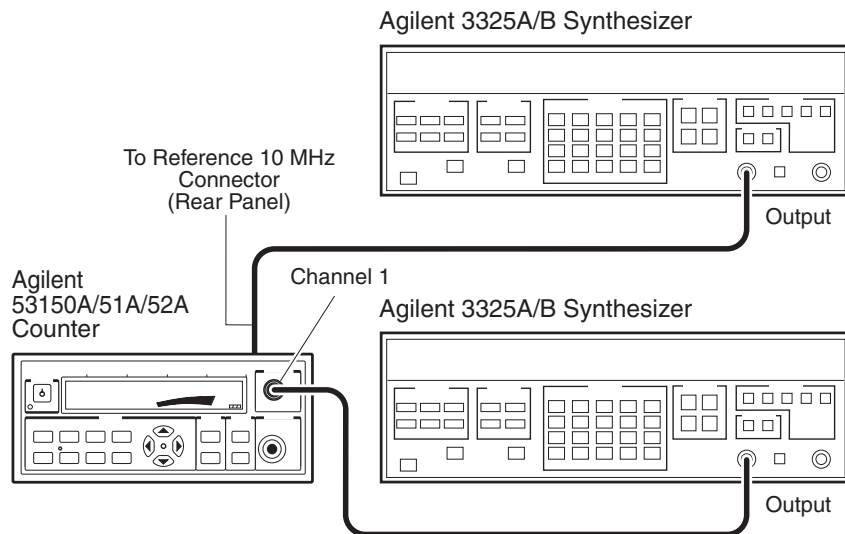

Figure 1-2. External Timebase Test Setup
- 1 Connect an Agilent 10503 series coaxial cable between the output of the first Agilent 3325A/B Synthesizer and the **Reference 10MHz** connector on the Counter's rear panel (see Figure 1-2).